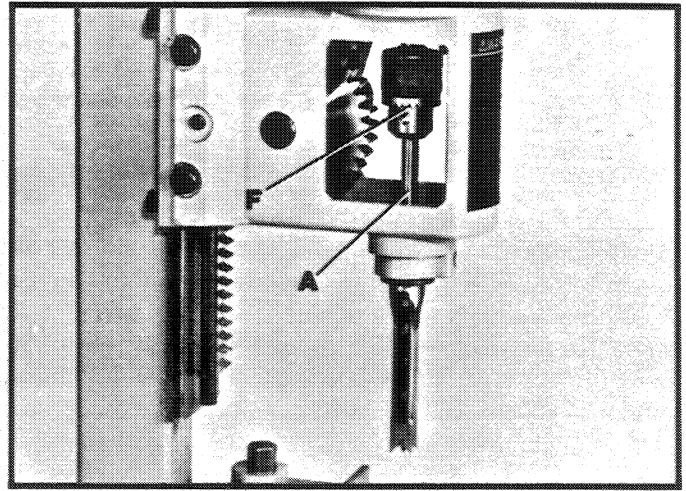

Fig. 14
4. Push bit (A) Fig. 14, up through chisel as far as it will go and lock bit in chuck using chuck key supplied.